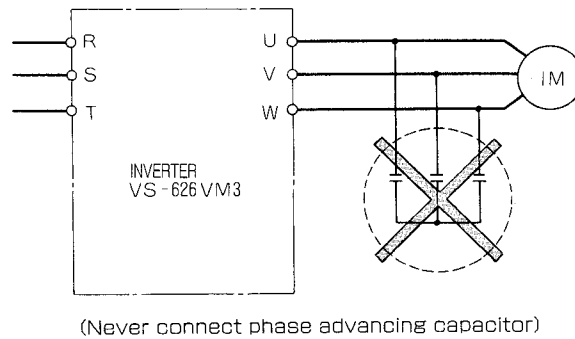

Fig. 11.8 Removal of Phase Advancing Capacitor
- (4) Phase rotation of input terminals (R, S, T) is available to each direction, clockwise and counter clockwise.
- (5) Never connect the power supply to output terminals (U, V, W).
- (6) Connect inverter output terminals (U, V, and W) to corresponding motor terminals (U, V, and W).
- (7) It is possible that failures caused by grounding or short-circuiting of output cables may occur. Be careful not to let cables come in contact with the case.
- (8) Never connect phase advance capacitors between the inverter and the motor. (Fig. 11.8.)